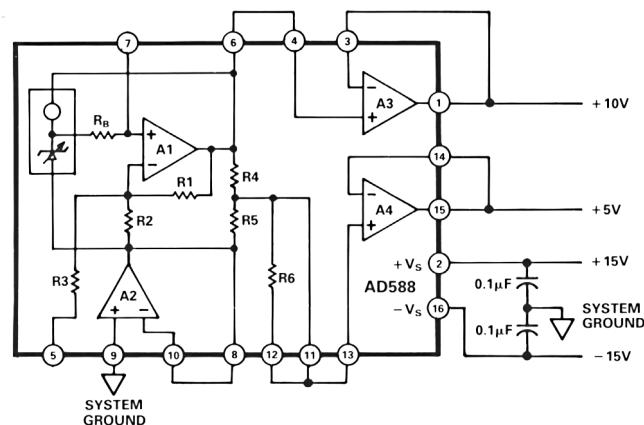
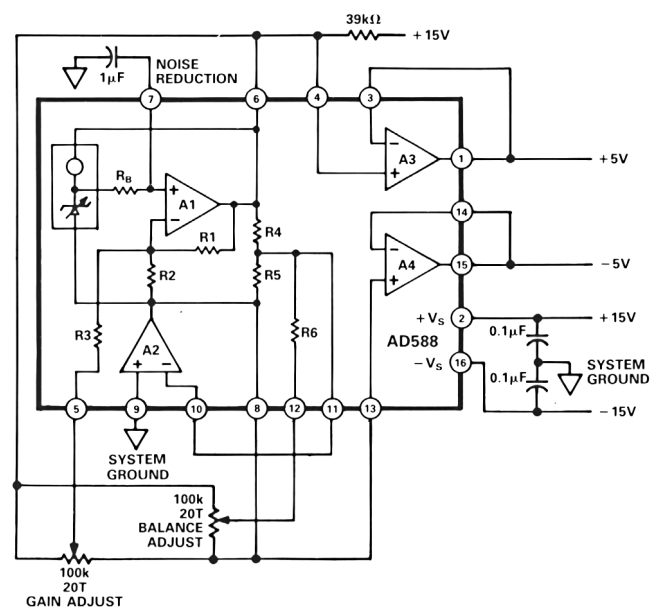
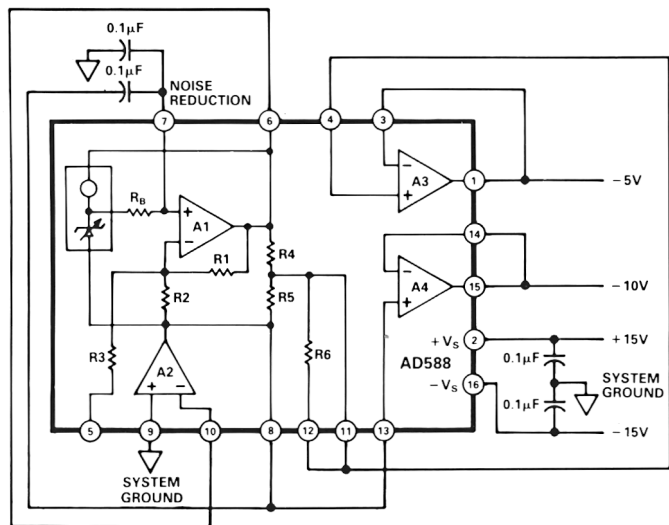

Figure 2a. +10 V Output
Figure 2b. +5 V and -5 V Outputs
Figure 2c. -10 V Output
+10 V Configuration Figure 2a
-10 V Configuration Figure 2c
+5 V, -5 V, ±5 V Configuration Figure 2b
The AD588 can be configured to provide +10 V and -10 V reference outputs as shown in Figures 2a and 2c respectively. It can also be used to provide +5 V, -5 V or a ± 5 V tracking reference as shown in Figure 2b. Table I details the appropriate pin connections for each output range. In each case, Pin 9 is connected to system ground and power is applied to Pins 2 and 16.
As indicated in Table I, a +5 V buffered output can be provided using amplifier A4 in the +10 V configuration (Figure 2a). A -5 V buffered output can be provided using amplifier A3 in the -10 V configuration (Figure 2c). Specifications are not guaranteed for the +5 V or -5 V outputs in these configurations. Performance will be similar to that specified for the +10 V or -10 V outputs.
Figure 2b shows GAIN and BALANCE trims in a +5 V and -5 V tracking configuration. A 100 k Ω 20-turn potentiometer is used for each trim. The potentiometer for GAIN trim is connected between Pins 6 (V_{HIGH}) and 8 (V_{LOW}) with the wiper connected to Pin 5 (GAIN ADJ). The potentiometer is adjusted to produce exactly 10 V between Pins 1 and 15, the amplifier outputs. The BALANCE potentiometer, also connected between Pins 6 and 8 with the wiper to Pin 12 (BAL ADJ), is then adjusted to center the span from +5 V to -5 V.
If further noise reduction is desired, an optional capacitor may be added between the NOISE REDUCTION pin and ground as shown in Figure 2b. This will form a low-pass filter with the $4 \text{ k}\Omega$ R_B on the output of the Zener cell. A $1 \mu\text{F}$ capacitor will have a 3 dB point at 40 Hz and will reduce the high frequency (to 1 MHz) noise to about $200 \mu\text{V}$ p-p. Figure 4 shows the 1 MHz noise of a typical AD588 both with and without a $1 \mu\text{F}$ capacitor.
Note that a second capacitor is needed in order to implement the NOISE REDUCTION feature when using the AD588 in the -10 V mode (Figure 2c.). The NOISE REDUCTION capacitor is limited to $0.1 \mu\text{F}$ maximum in this mode.